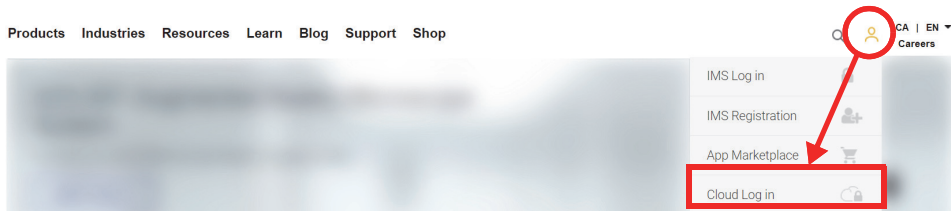

Figure 10-1 Cloud Log in
2. Create or join an existing account on the OSC (an administrator creates the account and invites all other users). Go to www.olympus-ims.com and click **Cloud Log in** as shown in Figure 10-1 on page 227.